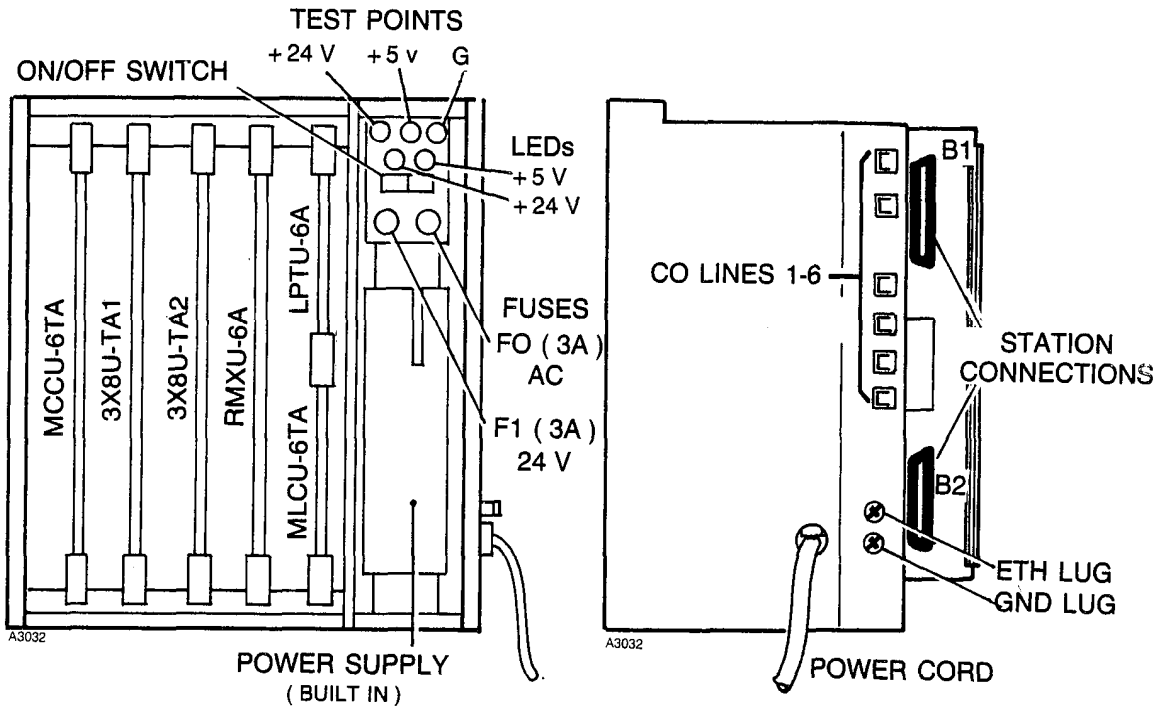

Figure 5-7 KEY SERVICE UNIT/POWER SUPPLY, EK-616, PCB ARRANGEMENT
**5.06** PCBs are keyed to fit only their proper slot ( Figure 5-7 ). When inserting PCBs, the connector edge slides in the slot with the component side facing the technician's left.
5.18 Insert PCBs in the proper KSU / PSU slot ( Figure 5-7 ).